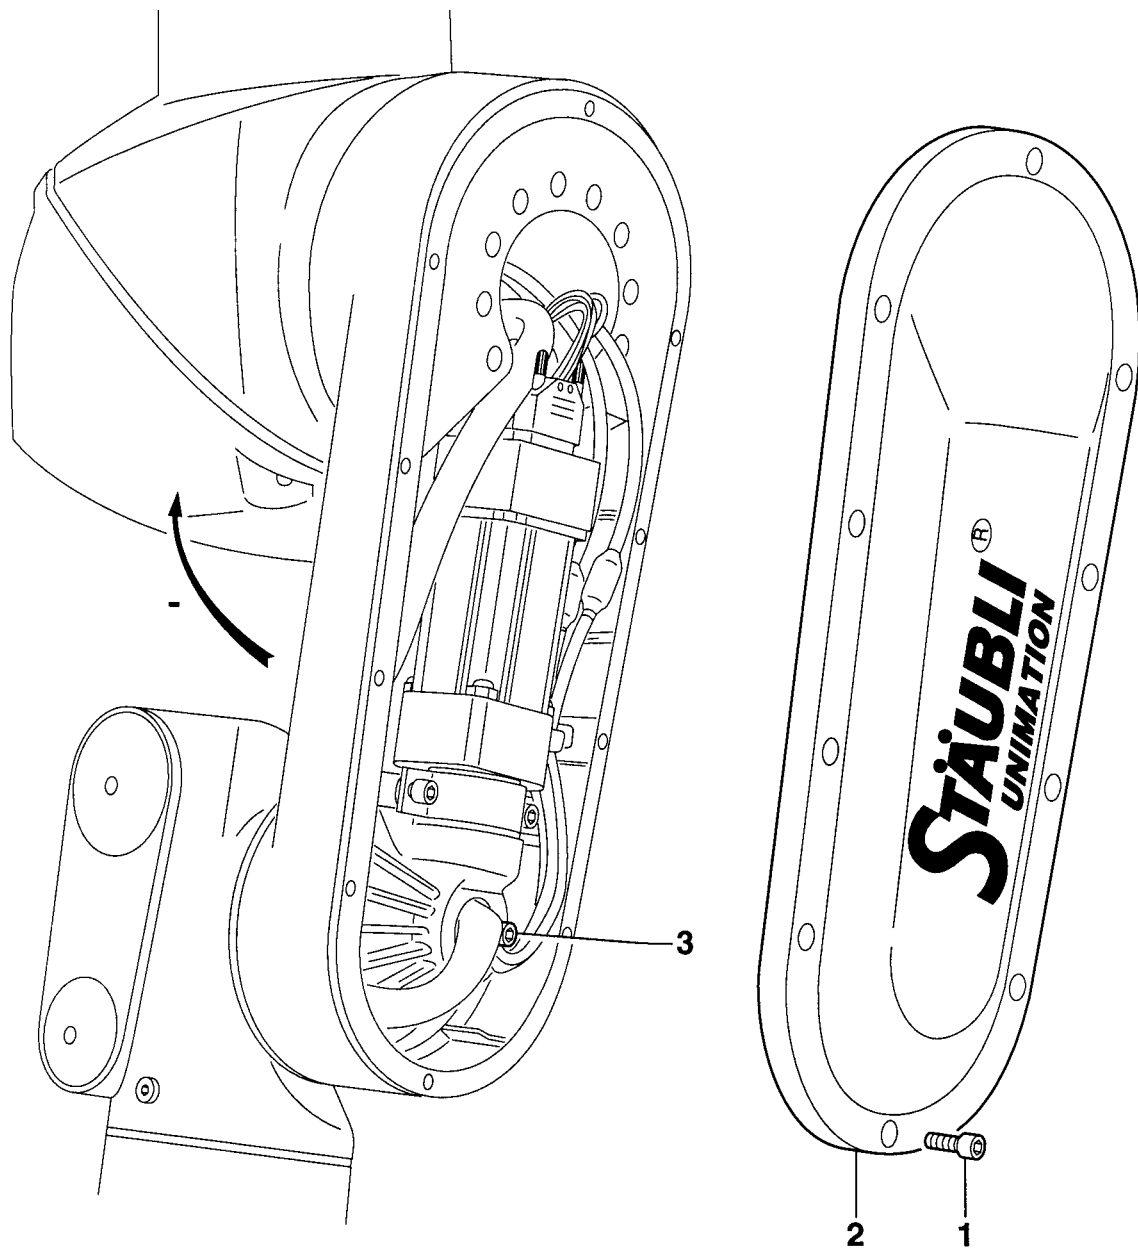

Figure 7.6
7.3.3. JOINT 3 (figure 7.6)
- **Install the cover (2) on the arm.**
7.3.4. JOINT 4 (figure 7.6)